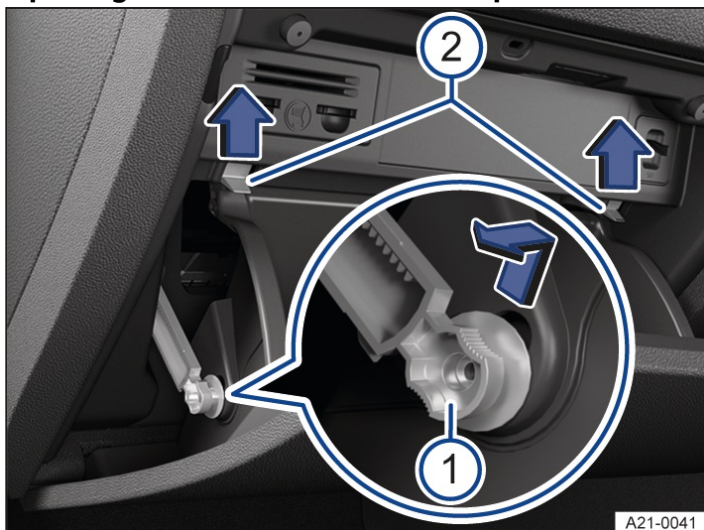

Fig. 2 In the dash panel on the front passenger side: fuse box cover in the dash panel (right-hand drive vehicle)
2. Push restrictor upwards into the opening of the holder and pull out to the side → Fig. 2 1.
3. Push catches upwards in the direction of the arrow at the same time open the stowage compartment further → Fig. 2 2.
3. Carefully push the stowage compartment forwards beyond the resistance of the catches → Fig. 2 2.